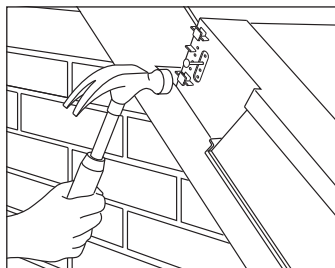

Fig. 4 – Nail fix verge unit
- 7 Nail the verge unit to the tiling batten using the appropriate hole (nearest to the centre of the tiling batten) with 40mm x 3.35mm annular ring shank nail provided in the fixing kit (Fig. 4).